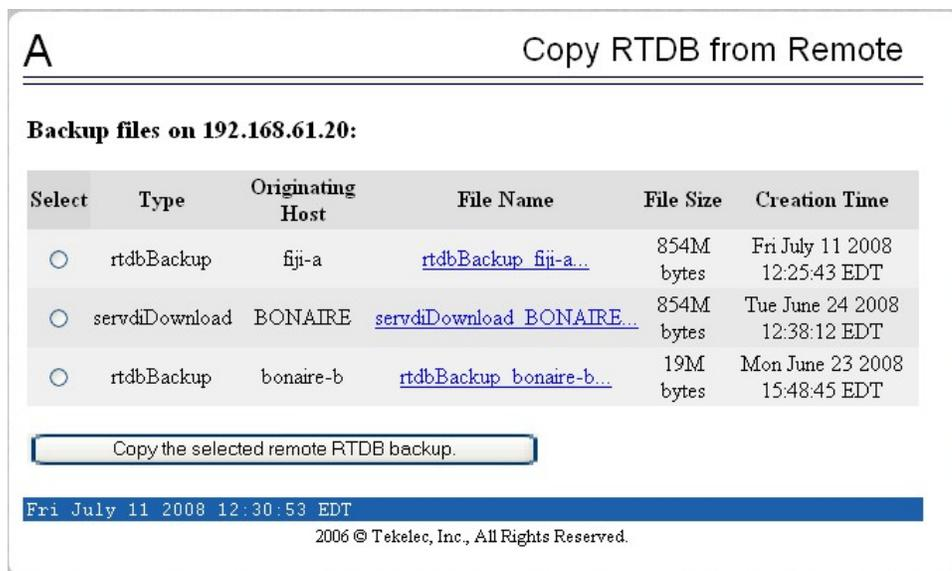

Figure 86: Copy RTDB from Remote Selection
5. Select the appropriate source from the screen that is displayed, as shown in *Figure 86: Copy RTDB from Remote Selection*. Then, click the **Copy the selected remote RTDB backup** button.